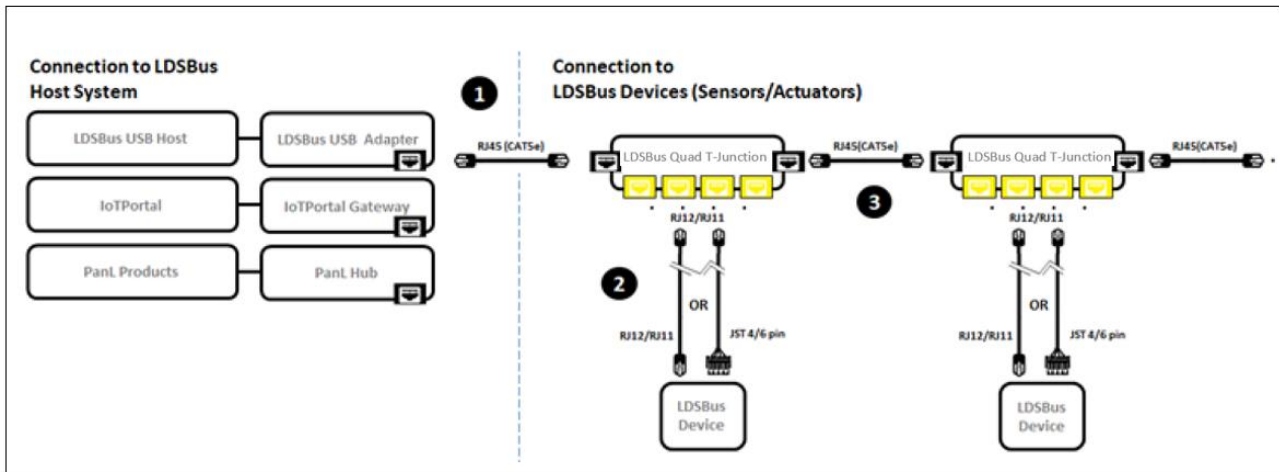

Figure 2 - LDSBus Salinity Sensor Adapter to LDSBus - Connection Diagram
Figure 2 illustrates the connection of the LDSBus Salinity Sensor Adapter (LDSBus Device) to the LDSBus. Please visit <https://brtsys.com/resources> to view the full device application, setup, and installation guides.
2. Connect the configured LDSBus Salinity Sensor Adapter to the LDSBus Quad T-Junction as shown in Figure 2.
3. If there is more than one LDSBus Quad T-Junction, chain them together as shown in Figure 2.